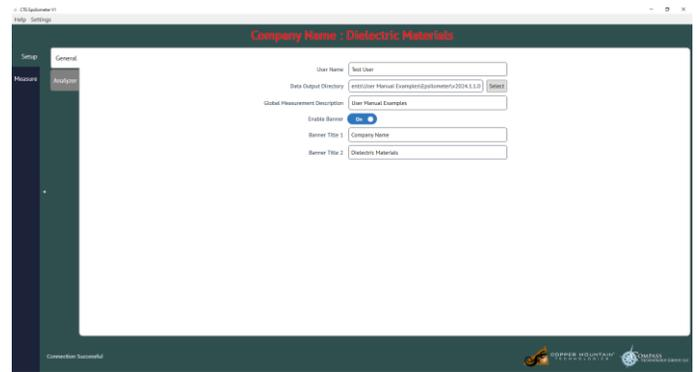

Figure 4. Initial "Setup" Screen
2. Open CTG.Epsilon software by double-clicking the CTG.Epsilon icon  on your desktop. An initial "Setup" screen will appear containing two ribbon tabs: "General" and "Analyzer" (Figure 4).